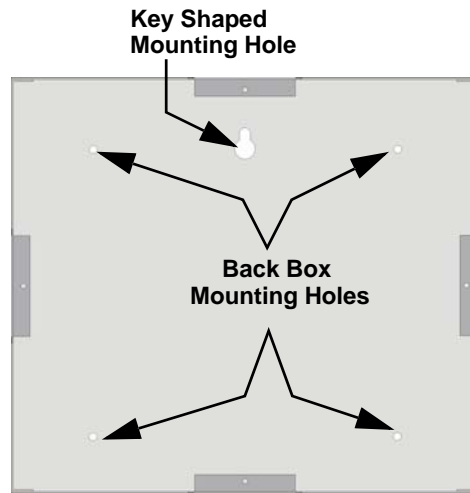

Figure 4-25 Back Box Surface Mount Holes
- To properly mount the back box, insert a single screw into the key shaped mounting hole. Do not tighten all the way. See Figure 4-25.